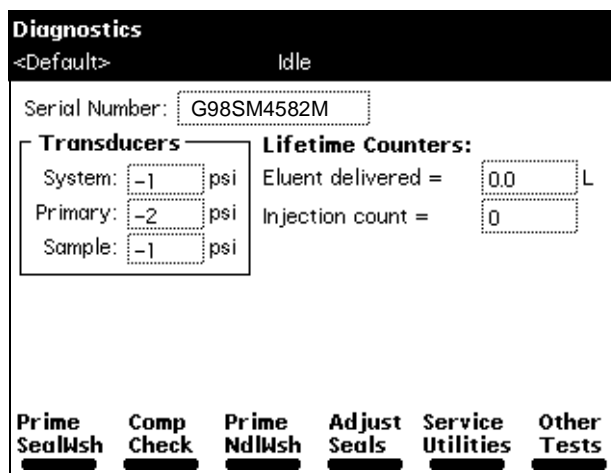

Figure 3-13 Diagnostics Screen
1. Press the **Diag** screen key in the Main screen. The Diagnostics screen appears (Figure 3-13). Refer to Section 8.3, Performing Main Diagnostics, for more information on the Diagnostics screen.
2. Press the **Diag** screen key in the Main screen. The Diagnostics screen appears (Figure 3-13).